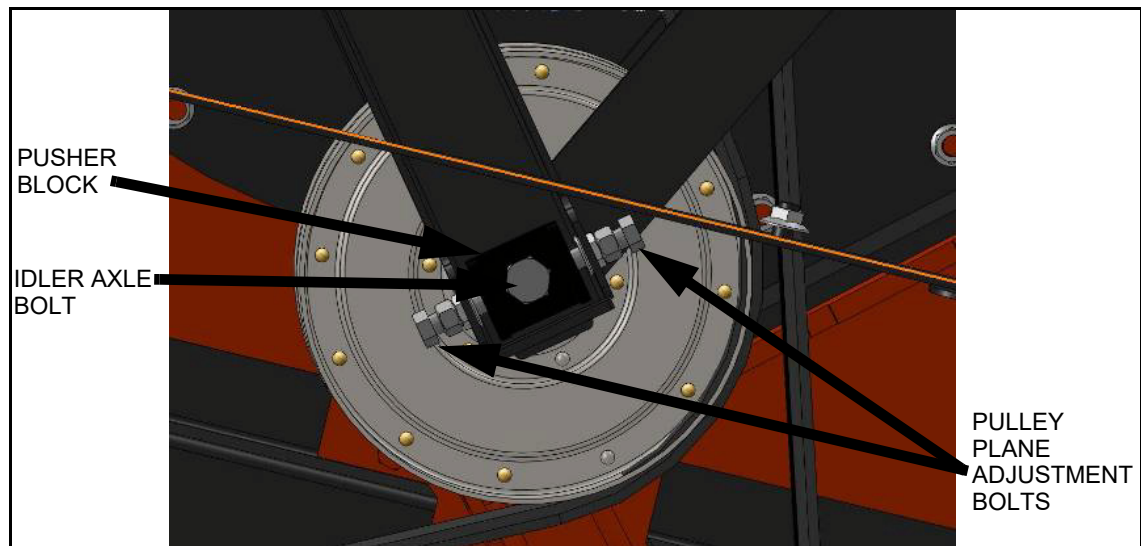

Figure 5.10 Pulley Plane Adjustment
3. Fine (or pulley plane) adjustment of the idler pulley is achieved by first loosening the 1/2" idler axle bolt (see Figure 5.10). Next loosen the 2 x 3/8" jam nuts on the outside of the box-shaped idler arm, and then using the 3/8" pulley plane adjustment bolts against the pusher block, to adjust the pulley in the desired direction.